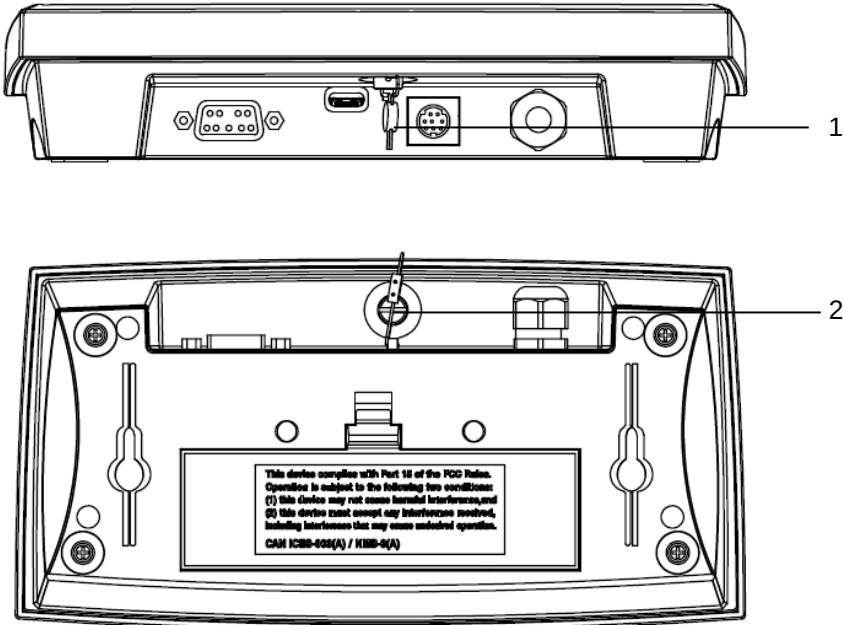

Figure 5-3 Courier 7000 Wire Sealing
- Wire Sealing: replace the countersunk screw by a cross-drilled screw that can be found in the packaging box. Then thread a sealing wire through the screw head and a permanent tab on the bottom housing shown as Figure 5-3.